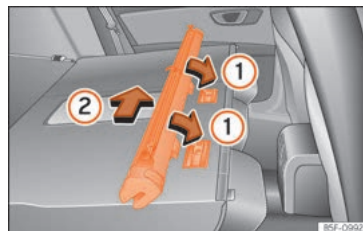

Fig. 181 Assembling the net partition in the rear seat backrests.
- Place the net casing in the rail slots in the direction of the arrows » Fig. 181 ①.
- Push the casing towards the left side of the vehicle in the direction of arrow » Fig. 181 ② and as far as it will go.
- Pull the net casing out approximately 5 cm in the opposite direction to the arrow » Fig. 181 ②.
- Remove the casing from the rails by pulling in the opposite direction to the arrows » Fig. 181 ①.